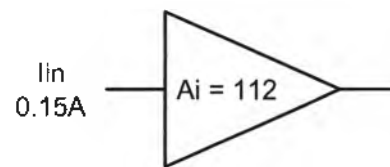

Figure 8
25. What is the output current of the amplifier in Figure 8?